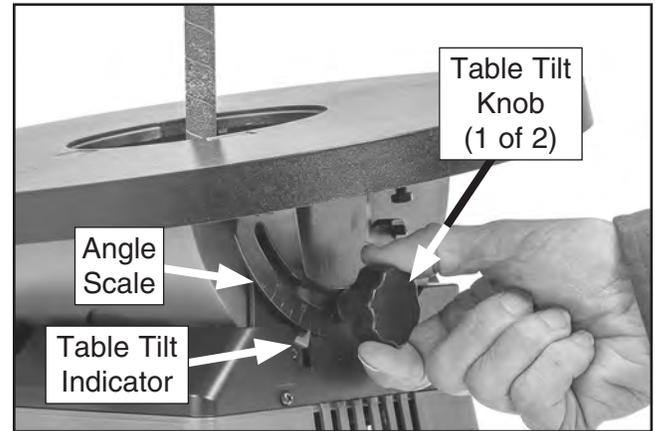

Figure 16. Tilting table.
1. Loosen table tilt knobs (see **Figure 16**).
2. Position table by hand, referring to angle scale to set angle of table tilt (see **Figure 16**).